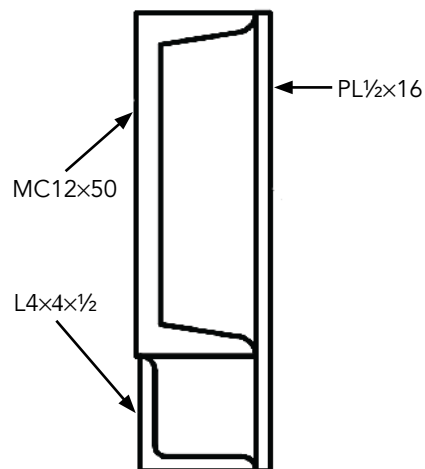

Fig. 9. A stiffened stringer for Case Study 2.
1. Stiffen each stringer by welding an angle to the bottom and plate to the side, resulting in the 16-in.-deep built-up tube in Figure 9. The purpose is to increase the natural frequencies, resulting in lower accelerations due to stair descents. This option has the advantage of causing minimal aesthetic impact. It has the disadvantage of being expensive and time consuming. The controlling